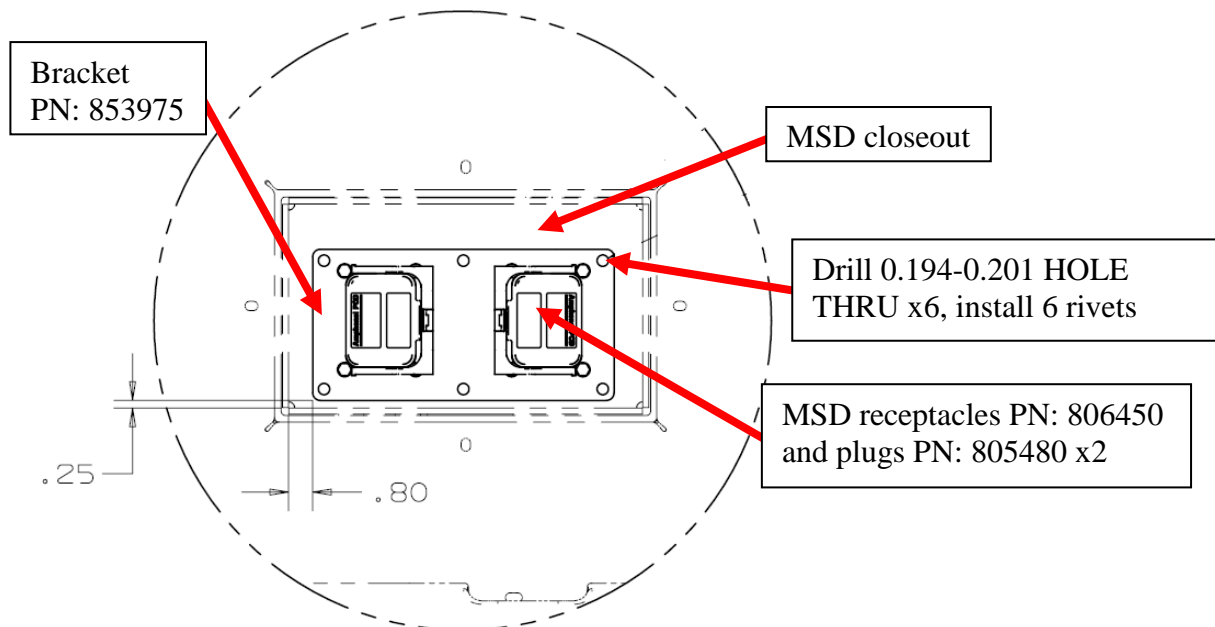

Figure 16: Rear ESS MSD closeout bench assembly
- 3.4.1 Assure MSD closeout is removed from rear ESS compartment. Using bracket PN: (853975) as a template, drill 6 holes as shown in figure 16.